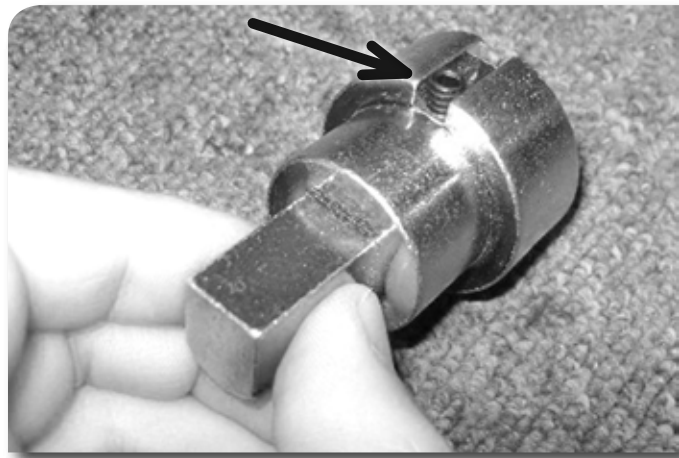
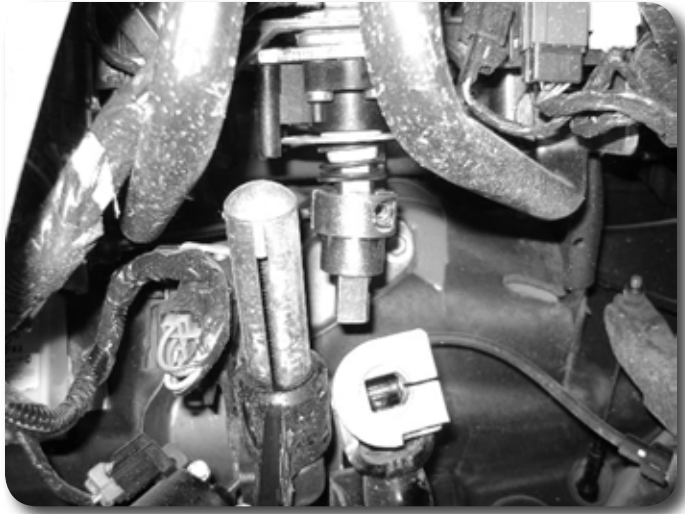

Figure 2A
Figure 2B
4. Locate the provided steering extension and install the provided 1/4" set screw. **Figure 2A** Only start the screw into the side of the extension. Install the steering extension on the steering column. **Figure 2B** Install the provided 3/8" Allen head bolt in the extension. Make sure the bolt goes through the retaining groove on the steering column. Tighten the Allen head bolt to 40 ft-lbs. The extension will be attached to the steering shaft after lifting operation is complete.